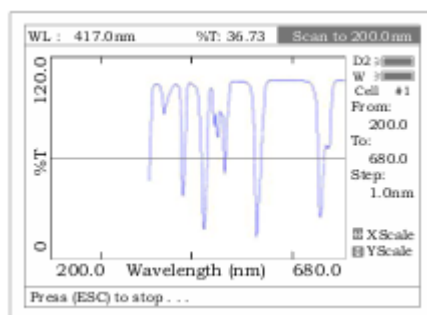
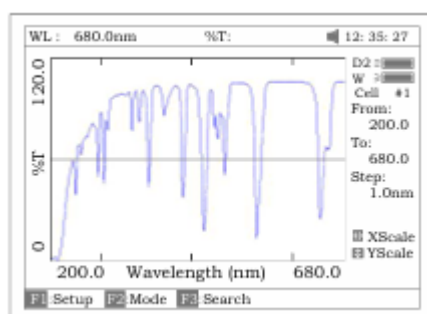

Fig.45
Fig.46
4. Put the sample cuvette into Main Light Path, press **【START】** to scan the sample(Fig 45) **【ESC/STOP】** to stop scanning. When scan has finished the beeper beeps 3 times (Fig 46).
Note: The report always is printed in Fig 46.